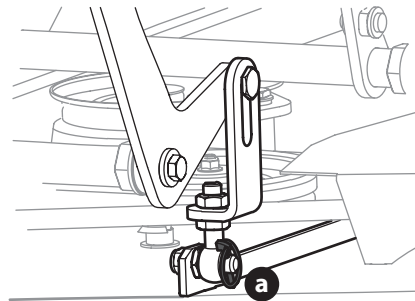

Figure 57
4. Remove the four lynch pins (a) that secure the deck to the deck lift assembly (Figure 57).